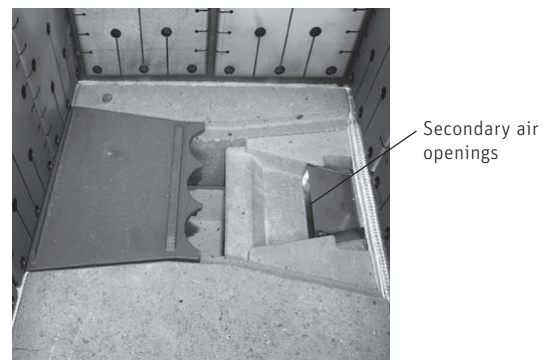

Fig. 41 Taking out the burning plates, checking the secondary air openings.
- Take out both burning plates, vacuum out the ash and check the secondary air openings under them. Clear if necessary – Fig. 41.